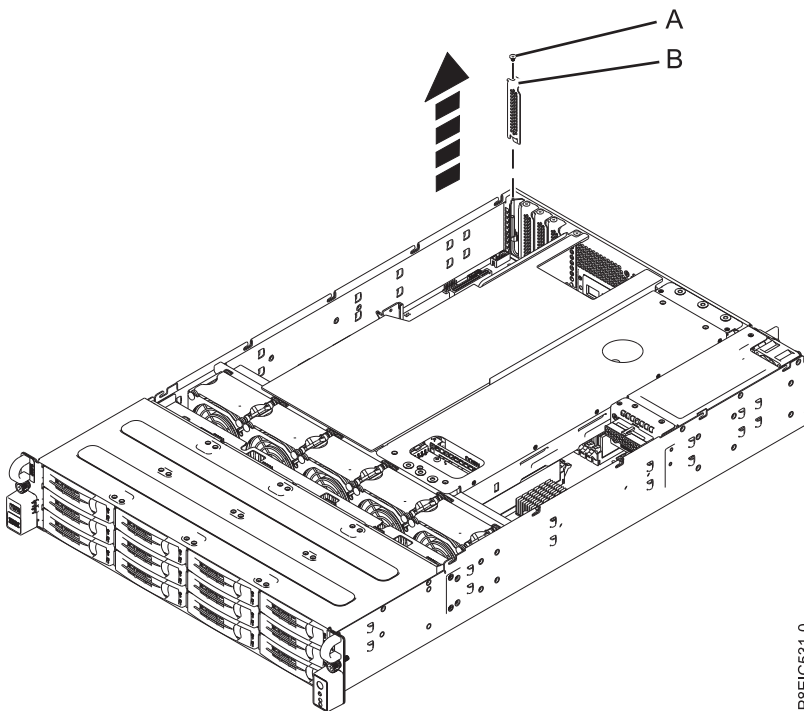

Figure 34. Removing the PCIe slot cover
3. Remove the retaining screw (A) and remove the PCIe slot cover (B). See Figure 34. Keep the retaining screw.